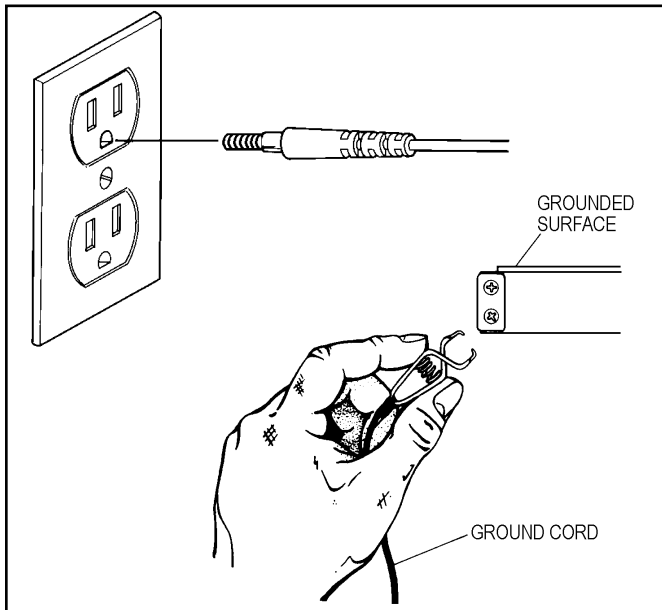

Figure 3. Connecting ground point
5. If using a standard electrical outlet, verify proper wiring of electrical outlet with the #98130 Polarity Ground Checker and Ground Point or equivalent. Unscrew threaded banana plug from insulated clip and plug it into "green wire" ground. If an outlet is not available, attach the grounding clip to a reliable ground point. See Figure 3.